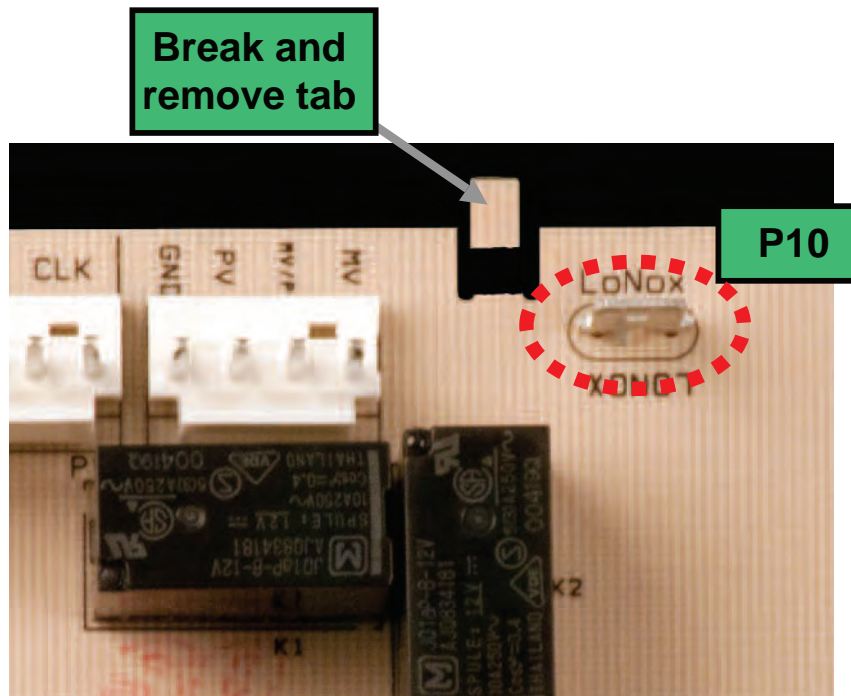

Fig. 14
2. Use pliers to break off the tab shown in **Fig. 14**.
3. Attach the wire from the air switch to the P-10 location shown in **Fig. 14**.